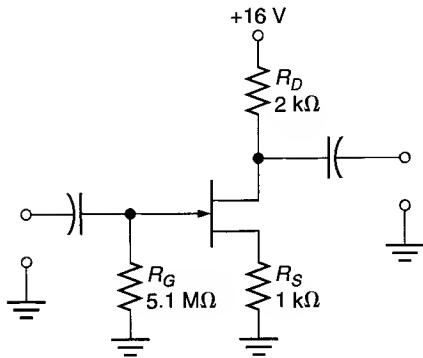

FIGURE 12.58
21. Determine the ranges of V_{GS} , I_D , and V_{DS} for the circuit shown in Figure 12.58. Assume the JFET is a 2N5458 (which is described in Problem 10).